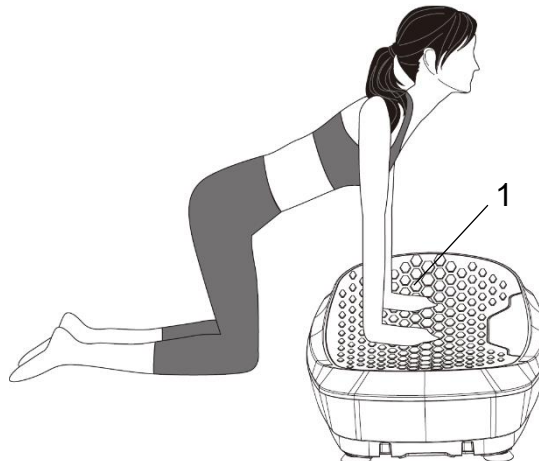

Fig. 4
3. Exercise for shoulders and arms: Kneel on the floor and support yourself with your hands about shoulder width on the **Stepping Rubber (No. 1)**. Your body should be leaning slightly forward. (Fig. 4)